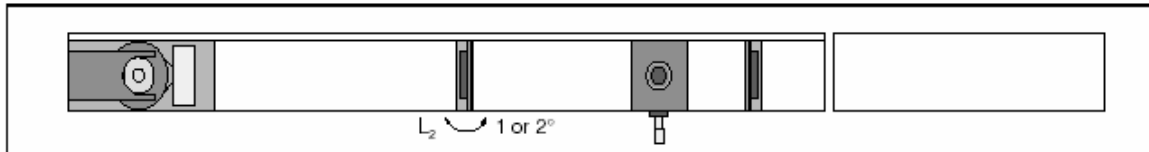

Figure 12: Turning  $L_2$  Slightly Askew to Clean Up the Image
22. In addition to the point image, you may also see interference fringes through the microscope (as well as the extraneous beam images mentioned above). These fringes cause no difficulty as long as the point image is clearly visible. However, the fringes and extraneous beam images can sometimes be removed without losing the point image. This is accomplished by turning  $L_2$  slightly askew, so it is no longer quite at a right angle to the beam axis (see Figure 12).